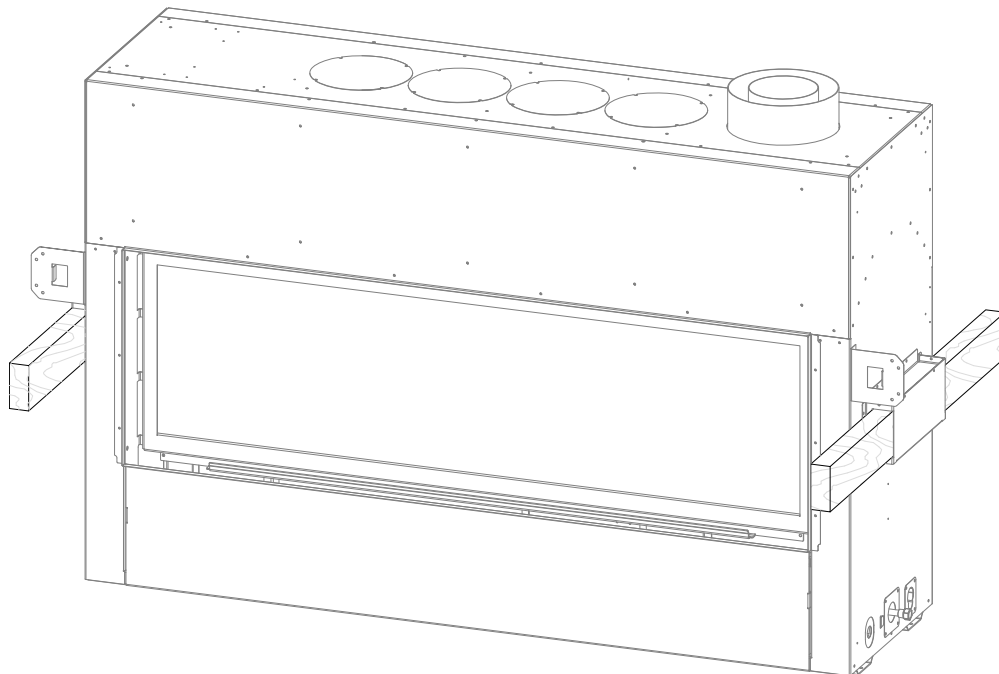

Figure 3.2 - Lifting Handles
- On both sides of the appliance, there are lift handles that allow a hand lift (no sharp edges), or allow a 2" x 4" piece of lumber to be inserted inside the lift handles, as shown in FIGURE 3.2.